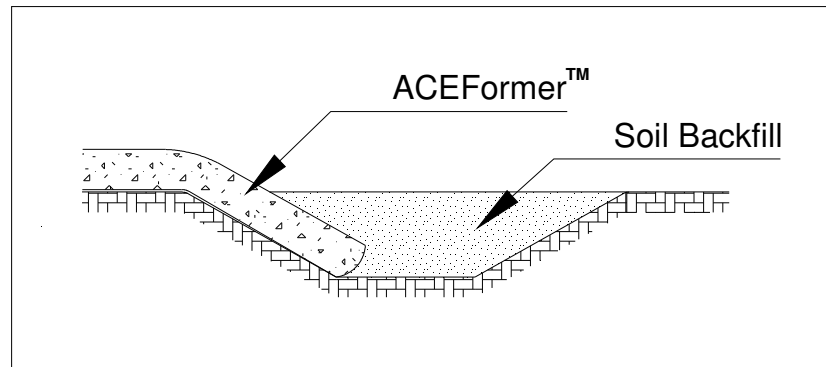

Figure 4. Illustration of the function of flank trench
- c. Excavate the flank trench with a minimum depth of 60 cm. (Later, after the laying and filling of ACEFormer™, backfill with soil and compact it properly to hold ACEFormer™ in place as shown in figure 4.)